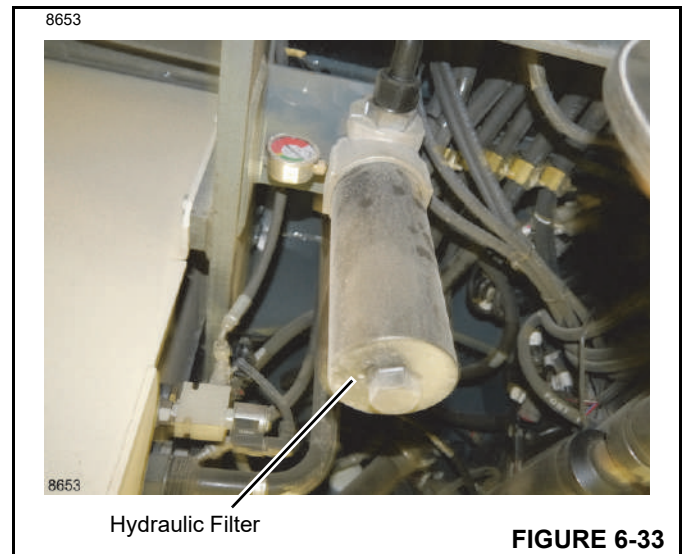

FIGURE 6-33
2. Locate the hydraulic oil filter under the crane (Figure 6-33).